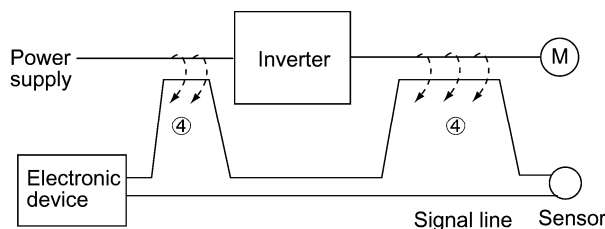
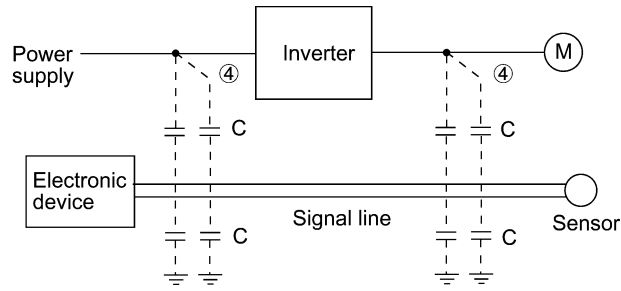

Figure A.4 Electromagnetic Noise
Figure A.5 Electrostatic Noise
When wires or signal lines of peripheral devices are brought close to the wires on the input and output sides of the inverter through which noise current is flowing, noise will be induced into those wires and signal lines of the devices by electromagnetic induction (Figure A.4) or electrostatic induction (Figure A.5). This is called "induction noise" ④.